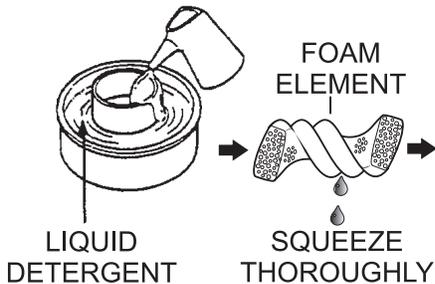

Figure 35. Cleaning The Foam Pre-Cleaner
5. Wash the **foam pre-cleaner** (Figure 35) in liquid detergent and water and squeeze dry in a clean cloth.